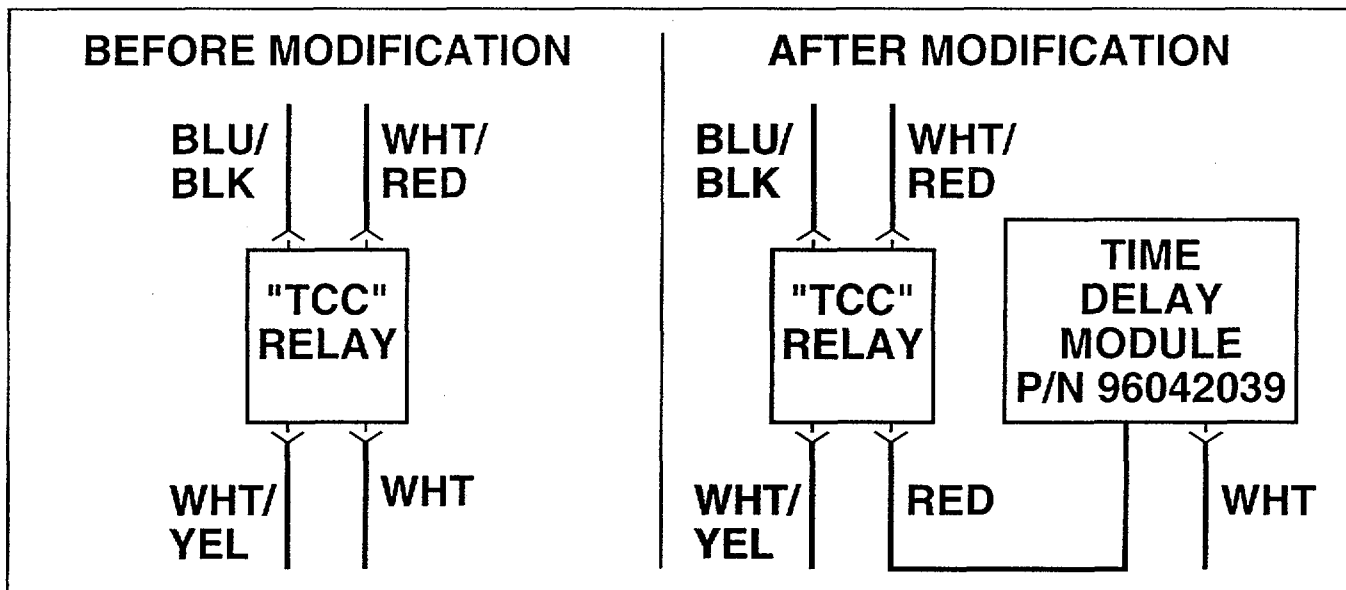

Figure 4
4. Connect the white wire to the Time Delay Module and wrap with electrical tape. Install the red wire from the Time Delay Module into the open terminal of the green TCC relay connector. (Figure 4)
5. Reconnect the green connector to the TCC relay and install the TCC relay onto the relay center. (Figure 4)